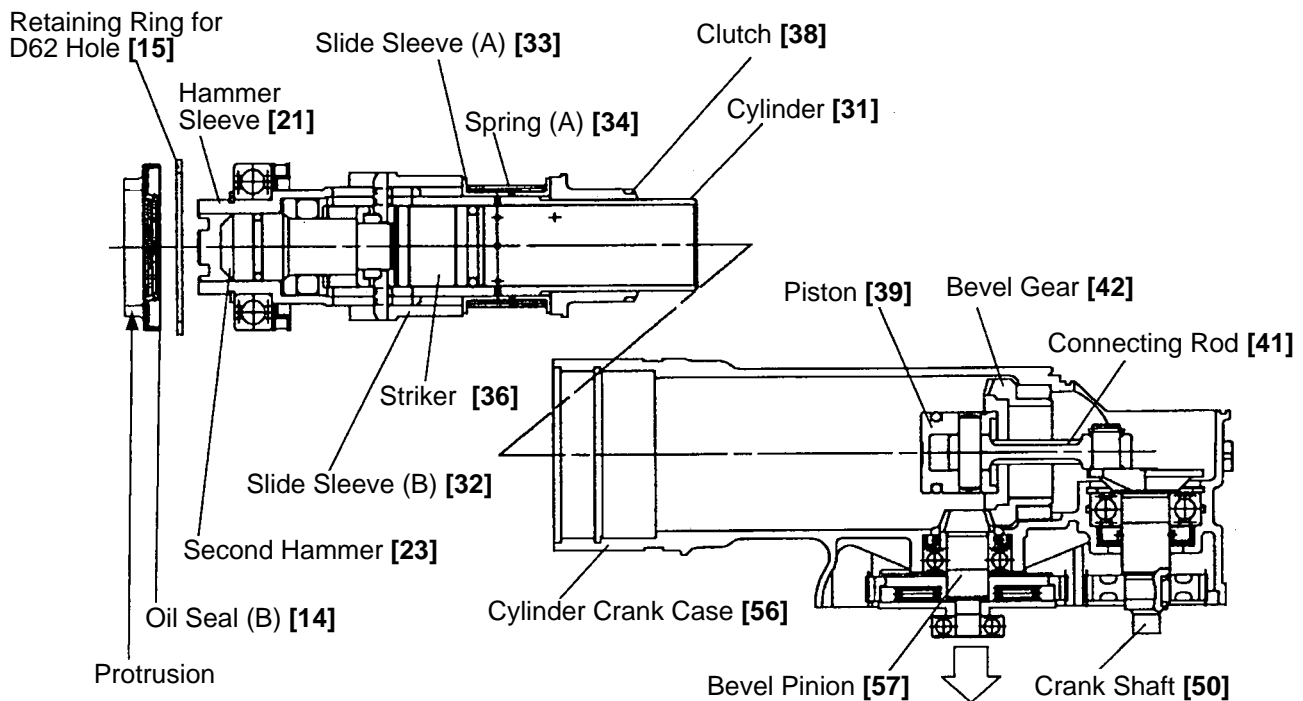

Fig. 11
(2) Disassembly of the piston and the striker
Remove the Seal Lock Hex. Socket Hd. Bolt M4 x 12 [44] from the Crank Cover [46] then remove the Crank Cover [46] from the Cylinder Crank Case [56]. Remove the Seal Lock Hex. Socket Hd. Bolt M6 x 45 [43] and Seal Lock Hex. Socket Hd. Bolt M6 x 22 [89]. Remove the Gear Cover [74] from the Cylinder Crank Case [56]. Remove the Bevel Pinion [57] (slip clutch) from the Cylinder Crank Case [56] (otherwise, Bevel Gear [42] cannot be removed later). Remove the Seal Lock Hex. Socket Hd. Bolt M6 x 25 [3] from Front Cover (A) [9]. Then the tool holder, Driver [13], Driver Holder [12], Damper (B) [11] can be removed from the Cylinder Crank Case [56]. Remove Oil Seal (B) [14] from the Cylinder Crank Case [56]. At this time, secure the Cylinder Crank Case [56] and pull out Oil Seal (B) [14] by holding the protrusion with pliers. Remove the Retaining Ring for D62 Shaft [15] using a retaining ring puller. Then the Hammer Sleeve [21], Cylinder [31], Second Hammer [23], Slide Sleeve (A) [33], Slide Sleeve (B) [32], Clutch [38], Spring (A) [34], etc. can be removed from the Cylinder Crank Case [56] in an assembled state. Remove the Bevel Gear [42] from the Cylinder Crank Case [56] by tapping Front Cover (A) [9] side with a plastic hammer. Remove the Striker [36] by tapping the Cylinder [31] with a plastic hammer. The Piston [39] remains in the Cylinder Crank Case [56]. Remove the Retaining Ring for D10 Shaft [49] using a retaining ring puller and remove the Connecting Rod [41] from the Crank Shaft [50] (Fig. 11).